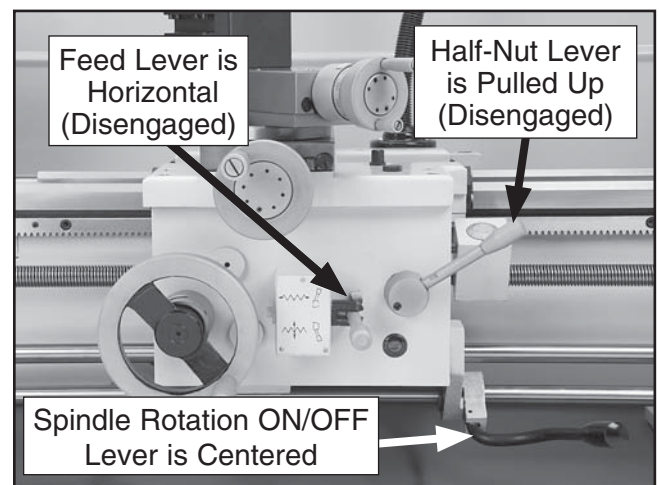

Figure 11. Apron controls.
3. Disengage the half-nut lever and the feed lever (**Figure 11**).
7. Push the POWER START button, then move the spindle rotation ON/OFF lever (**Figure 11**) down until the chuck begins to turn. The top of the chuck should turn toward you.